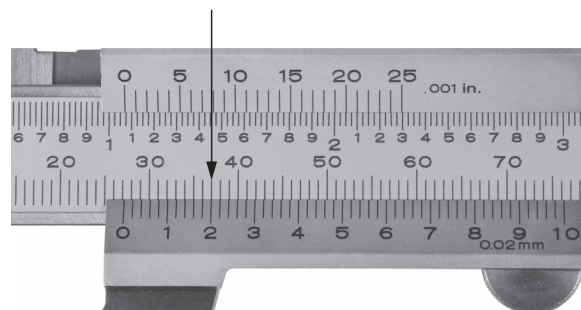

Figure 35: Reading a vernier caliper.
7. Which of the following measurements corresponds to the reading in millimeters shown in Figure 35? The small arrow shows a detail of the metric vernier scale.